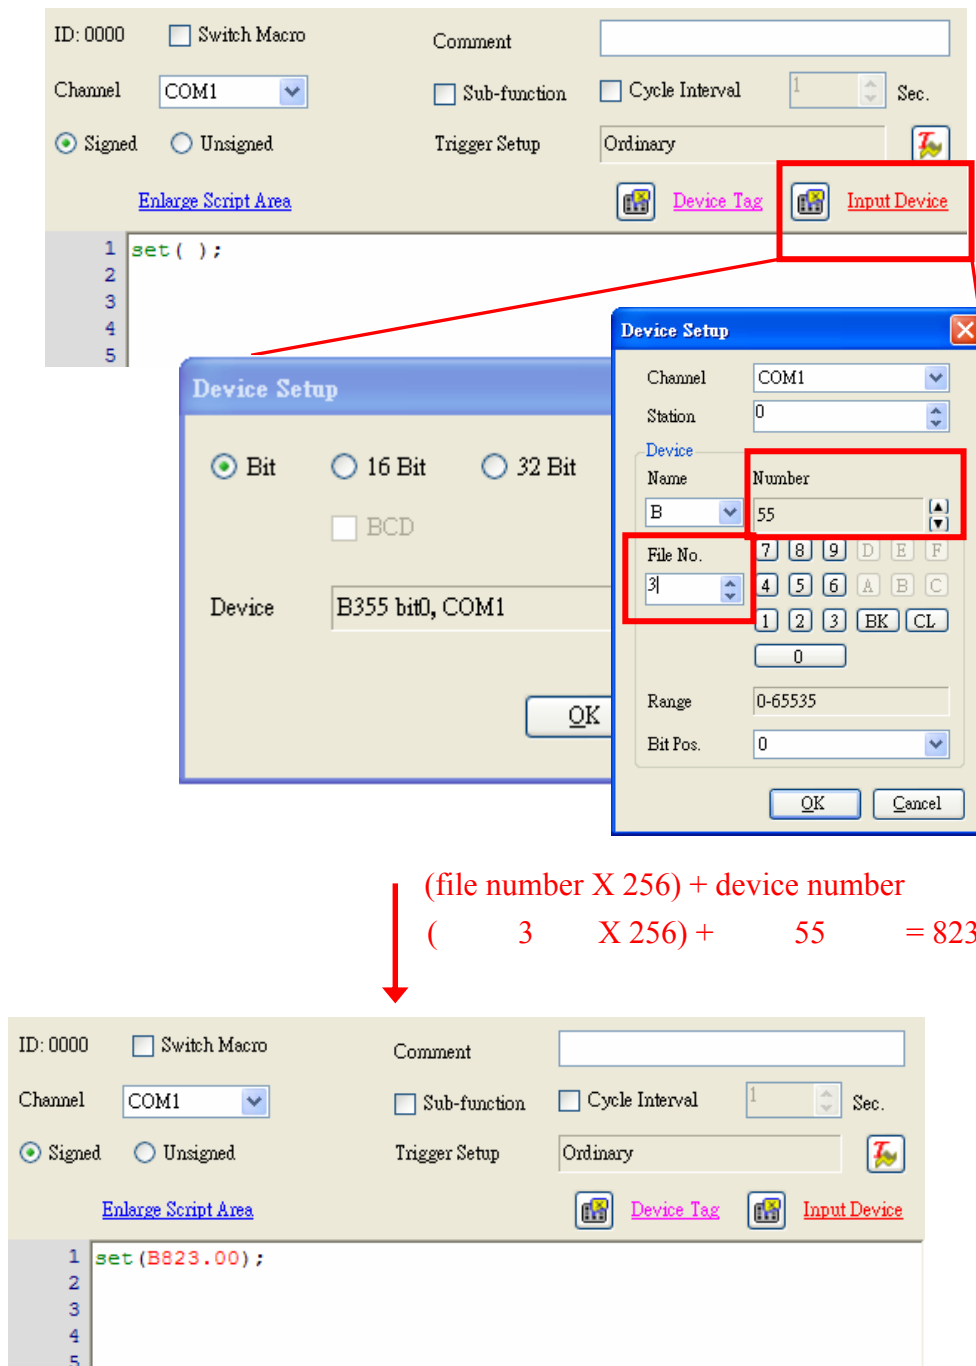

Fig. 3-4-5-18、Device setup
- When editing macro using Keyence PLC special device, Keyence PLC device coding has been calculated, as shown in the following figure 3-4-5-19.